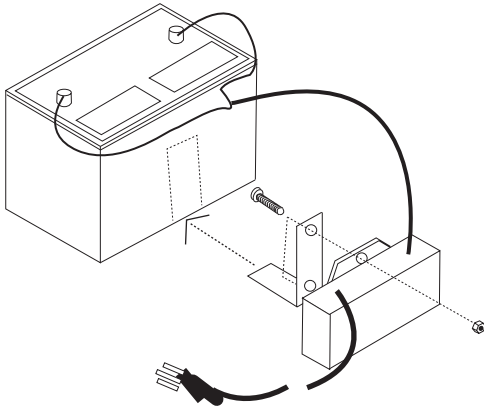

Figure 1. Charger Mounting
1. Fasten the supplied mounting bracket to the charger with the provided hardware as illustrated in Figure 1.